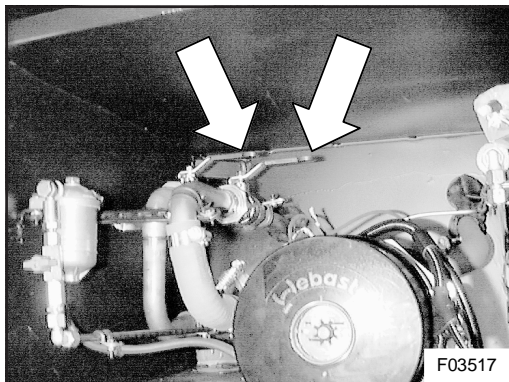

Figure 1: Location of gate valves in T2145 combustion heater compartment (valves in the "closed" position)
- T2145: both gate valves are located in the combustion heater compartment on the left hand side of the coach (see figure 1).